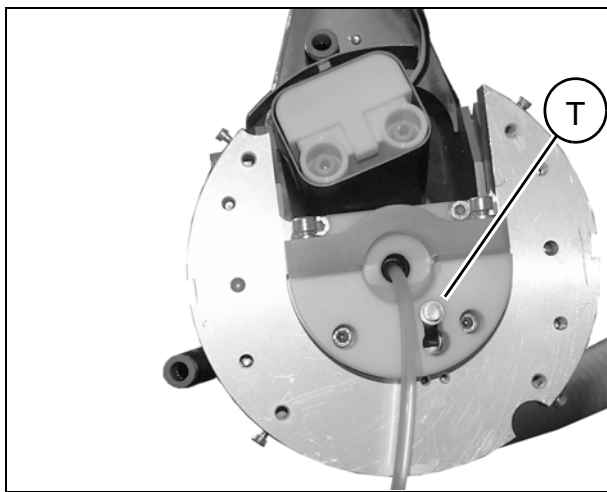

Fig. 6
- Check that the spring-mounted temperature sensor (T/ Fig. 6) is seated correctly in the groove.